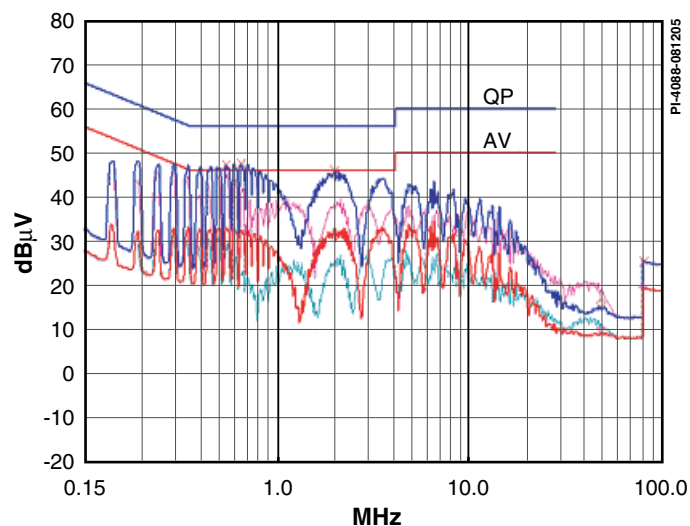

Figure 2. Conducted EMI Plot of the Schematic Shown in Figure 1 – Background Scans Taken at 110 VAC; Foreground Scans Taken at 230 VAC.
- Meets EN55022 B EMI limits with >8 dB margin (see Figure 2)